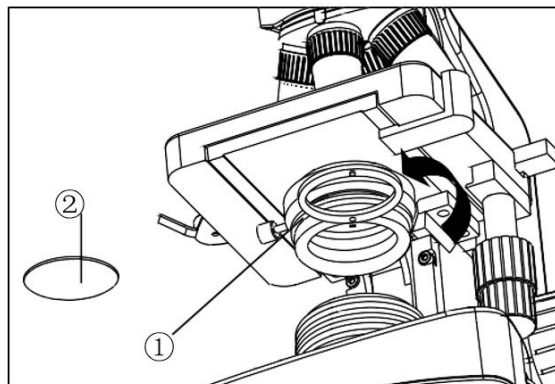

Fig. 7
#### 2.2.4 Install the colour filter (Fig.7)
1. Rotating the condenser holder ① out as the Fig.7 shows.
2. Put the filter ② into the condenser holder, then switch back the holder.
### 2.2.6 Replacing the fuse (Fig.7, 9, 10)